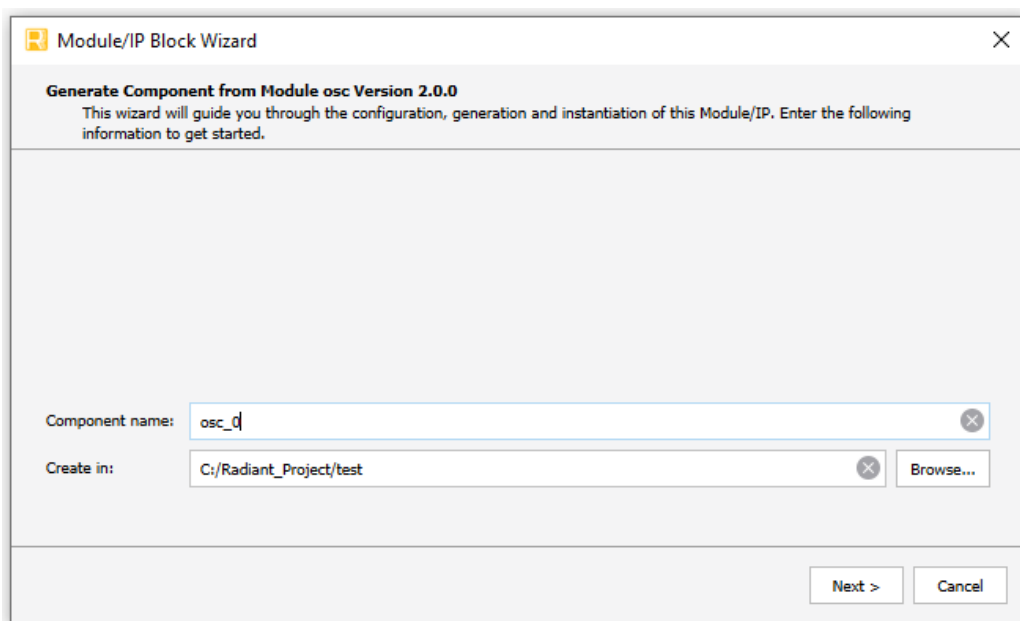

Figure 3.1. Module/IP Block Wizard
2. In the **IP Catalog** tab, double-click on **OSC** under **Module, Architecture_Modules** category. The **Module/IP Block Wizard** opens as shown in Figure 3.1. Enter values in the **Component name** and the **Create in** fields and click **Next**.
- Click the **Finish** button. All the generated files are placed under the directory paths in the **Create in** and the **Component name** fields shown in Figure 3.1.